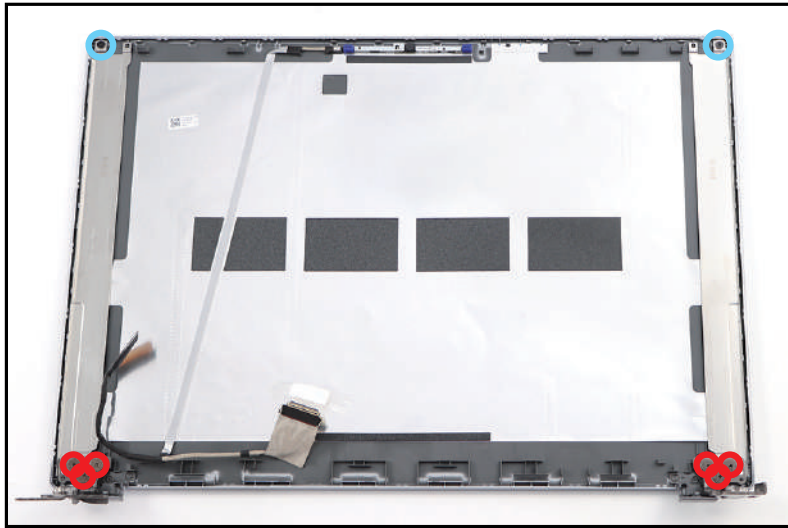

Figure 3-89. Replacing the LCD Hinges
2. Install eight (8) screws to secure the LCD hinges (Figure 3-89).